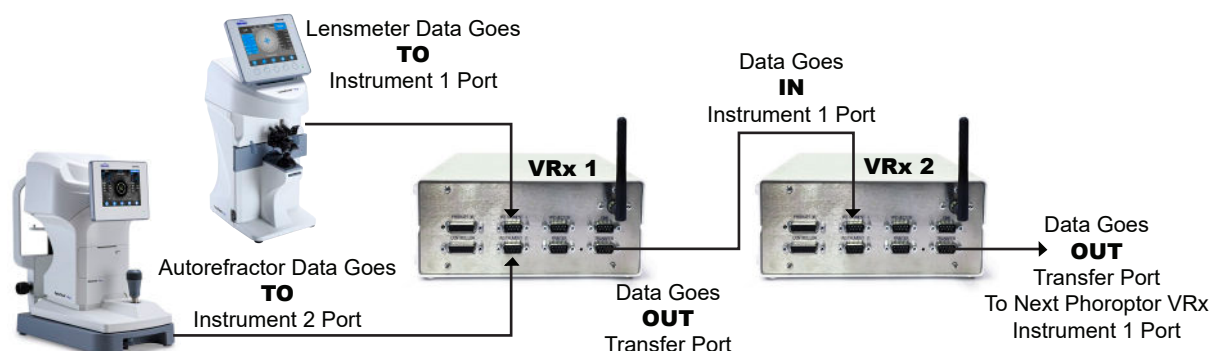

Figure IS-28, Daisy Chain Setup Diagram
When an EMR system only supports one way communication in a setup with multiple Phoroptor VRx units, Daisy chaining is required to get the pre-test data to all of the Phoroptor VRx units. Pre-test equipment is sent to the first Phoroptor VRx in the chain, and the data is then sent to all of the other Phoroptor VRx systems via the Instrument 1 or 2 and Transfer ports as shown in Figure IS-28.
5. Connect the **Transfer** port on Central Unit of the first Phoroptor VRx to the **Instrument 1 Port** on the Central Unit of the Phoroptor VRx next in line, using a cable, Bluetooth dongle, or internal Bluetooth connection. Refer to Figure IS-28.